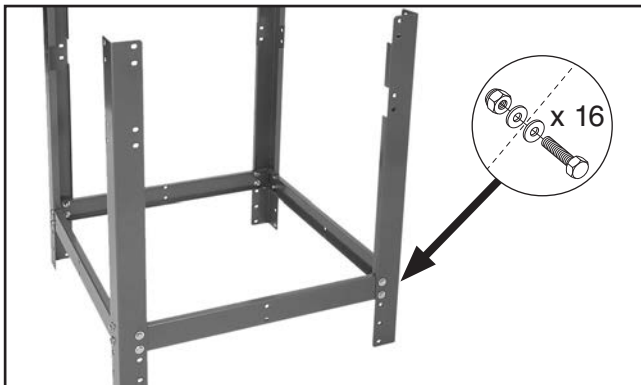

Figure 10. Initial assembly of upper stand legs connected to lower stand braces.
1. Connect the upper stand legs with the lower stand braces, using (16) $\frac{3}{8}$ "-16 x $\frac{3}{4}$ " hex bolts, (32) $\frac{3}{8}$ " flat washers, and (16) $\frac{3}{8}$ "-16 lock nuts (see **Figure 10**).